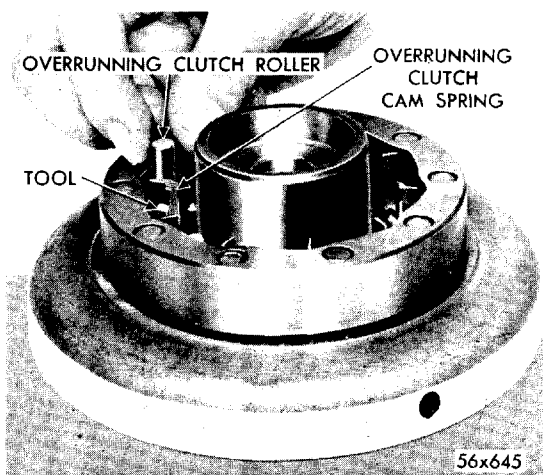

Fig. 72—Installation of Overrunning Clutch Rollers and Springs in Intermediate Support and Cam Assembly
(2) Place low and reverse planet pinion carrier assembly (E) in position in low and reverse band drum (G).
(3) With drum supported, select snap ring to give minimum clearance. Snap rings are available in three thickness: .060 - .062, .064 - .066, and .068 - .070 inch.
(4) Place Tool C-3527, in position in intermediate support and cam assembly, and install cam spring and rollers, as shown in Figure 72. **Make definitely sure that cam springs and rollers are properly seated against cam; otherwise, damage to springs will result when overrunning clutch hub is installed.**